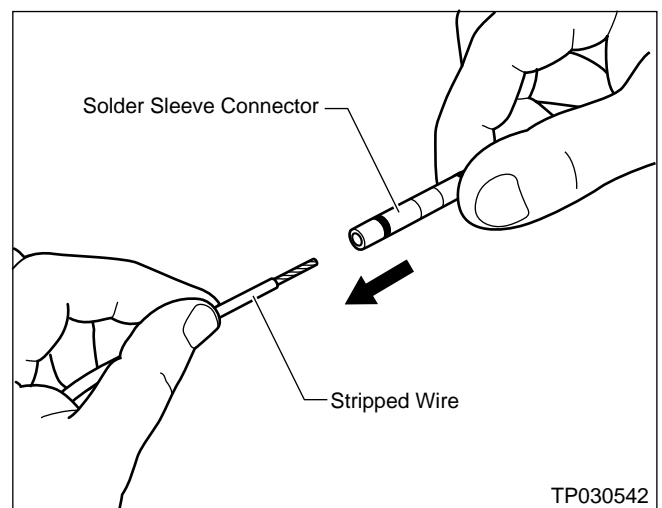

Figure 2
5. Slide the appropriate size Solder Sleeve Connector over one of the wires (see Figure 2).